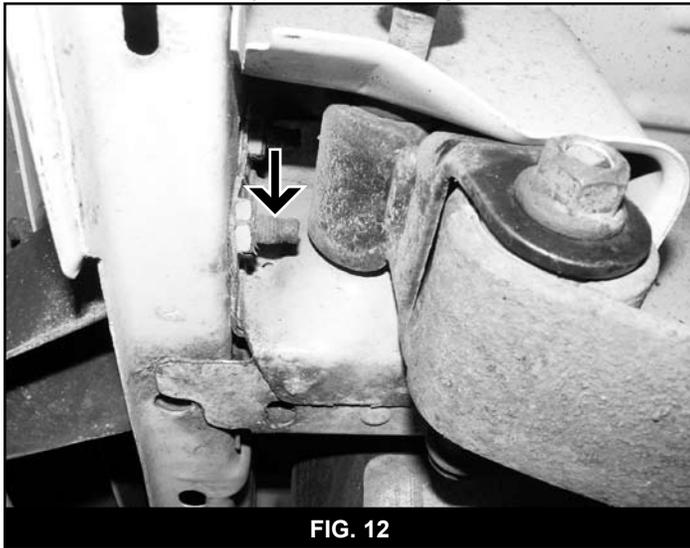

FIG. 12
72. Locate the bumper bolt that is protruding into the shackle pocket. This bolt will contact the new larger shackle through suspension travel. The bolt can either be cut off flush with the welded nut on the body or removed. (Fig 12)